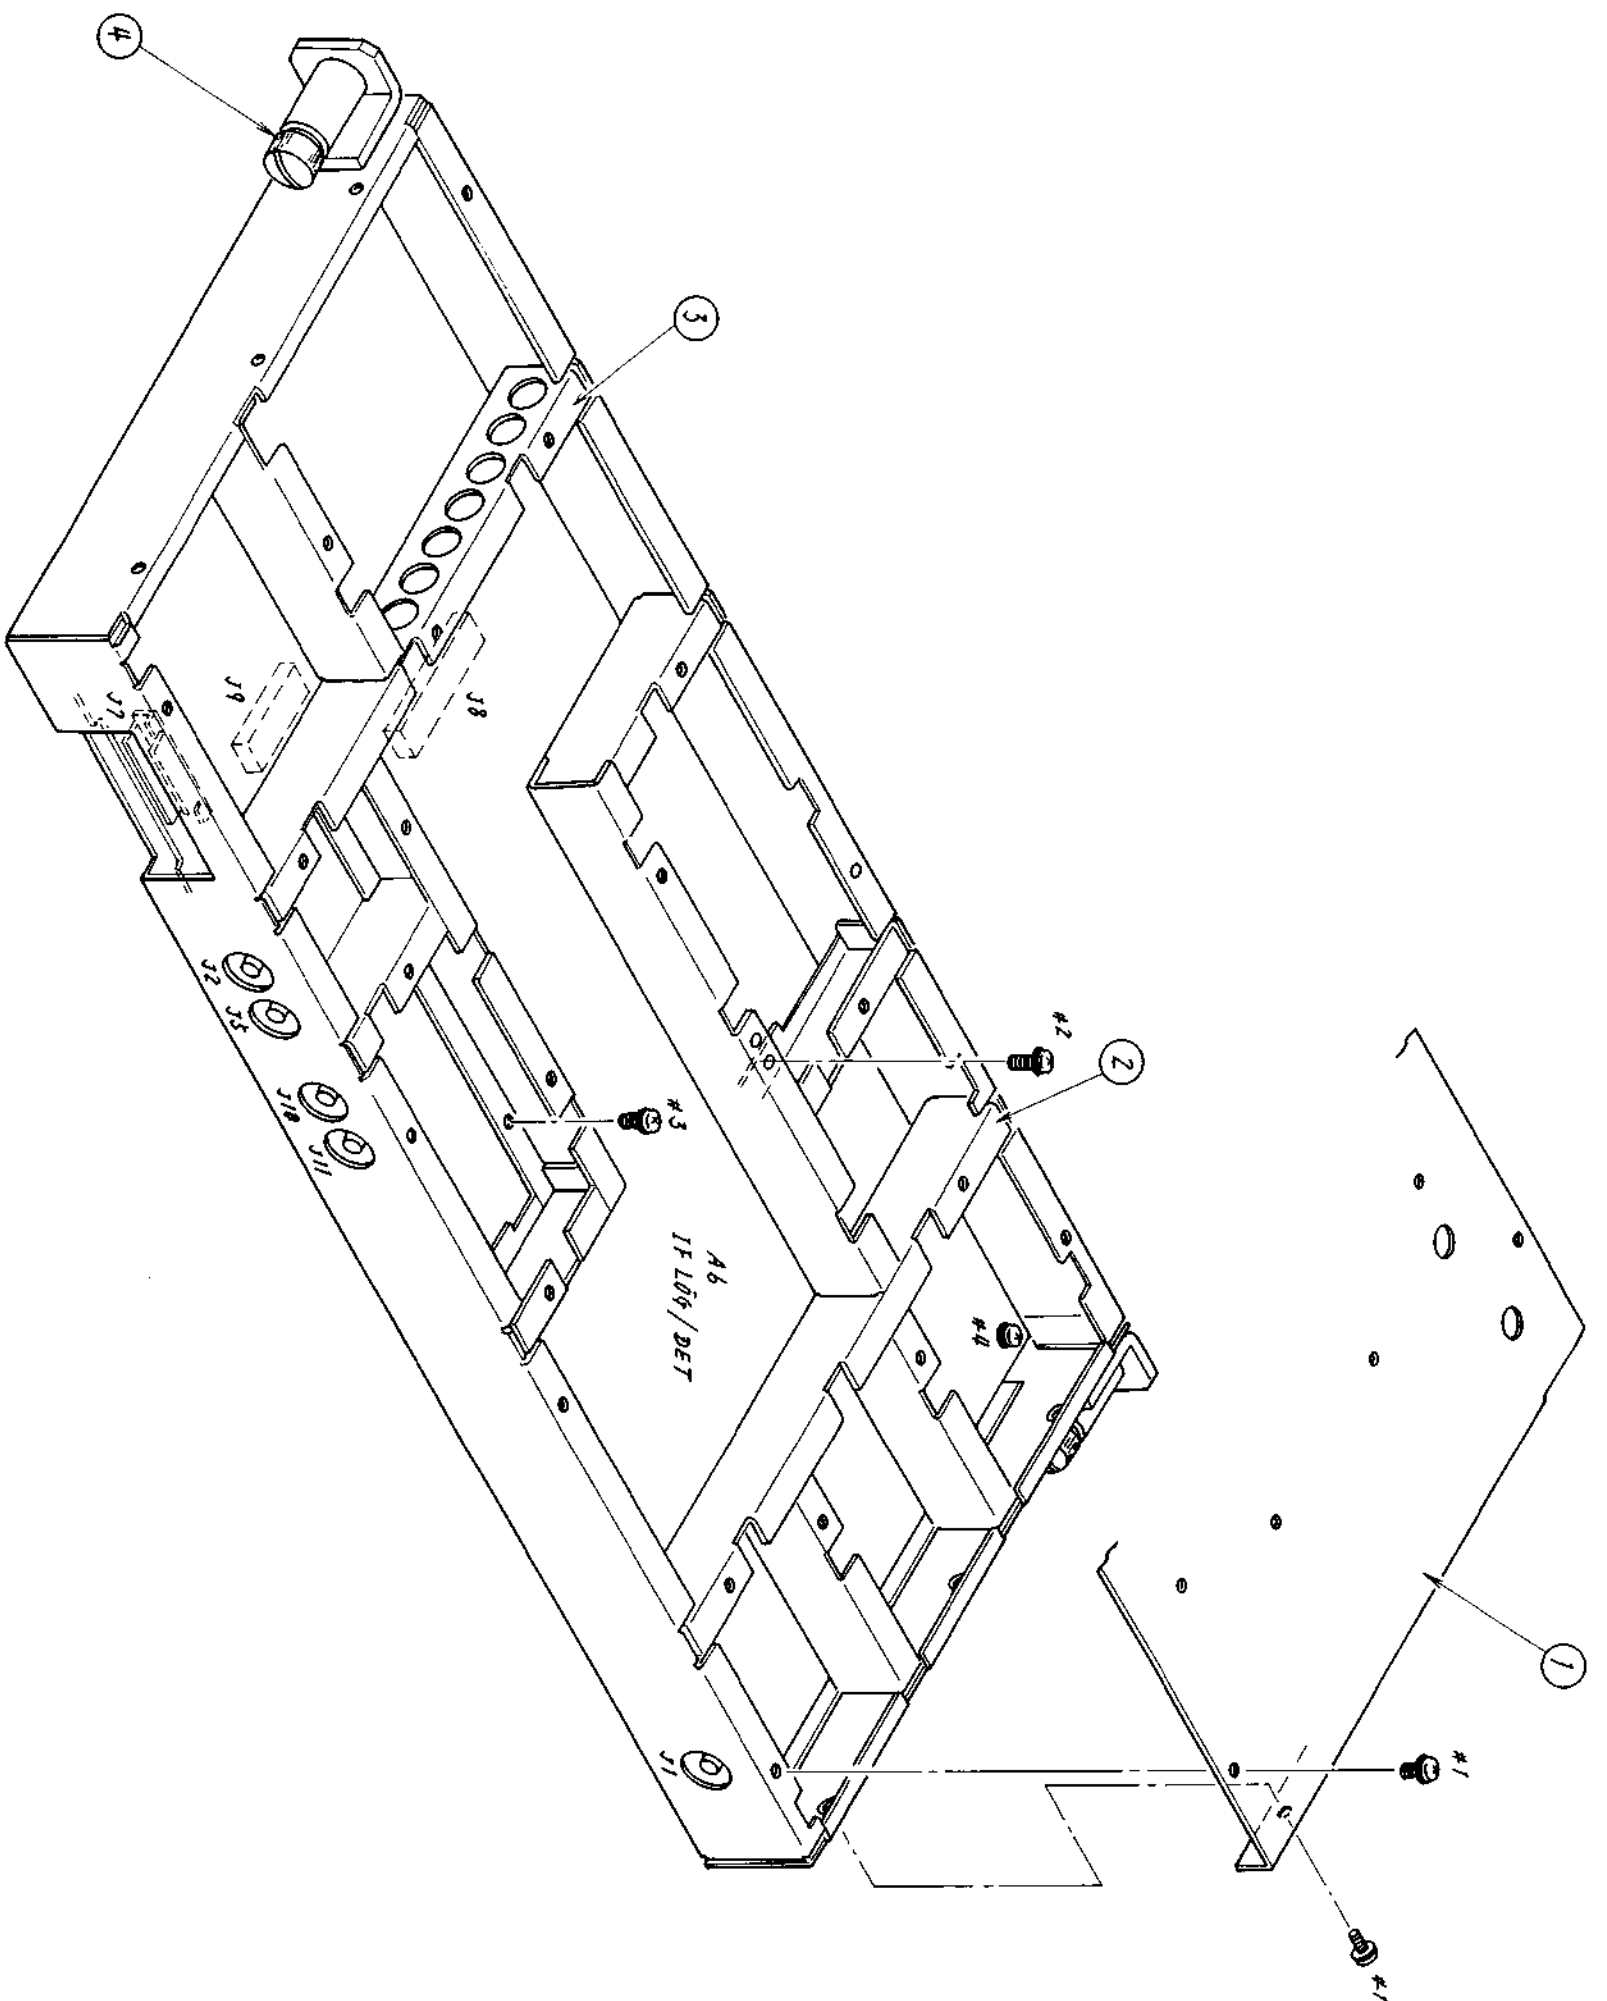

Fig. 5-18 AS&A6: SCAN&IF
5.10 Disassembling A5: SCAN/A6: IF LOG/DET (Figs. 5-18 and 5-19)
(1) Disassembling A6: IF LOG/DET (Fig. 5-18)